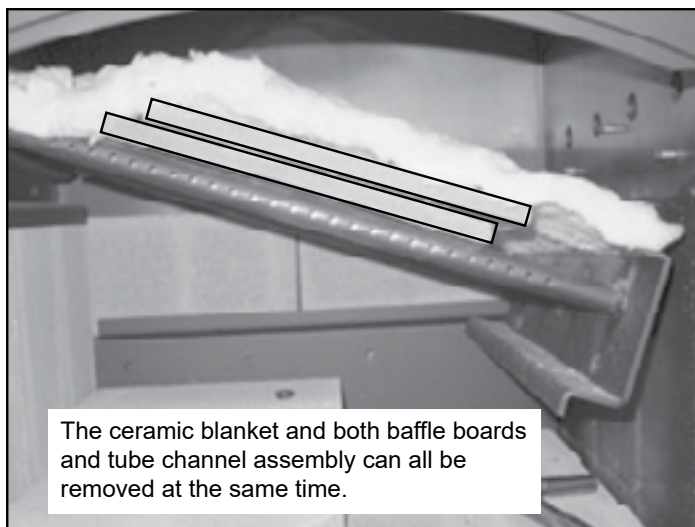

Figure 5.7
4. Slide the tube channel assembly to the left as far as it will go and lower the right side. Remove the baffle boards and ceramic blanket together (**Figure 5.7**).